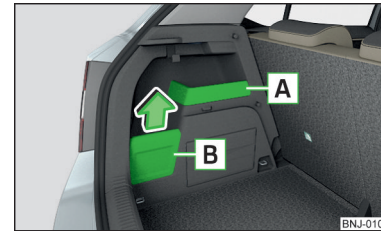

Fig. 111 Storage compartments
- If possible, take the item of luggage suspended from the hook and place it in the storage compartment **B** » Fig. 111 on page 85, otherwise there is a risk of damaging the storage compartment cover.
- If an item of luggage weighing more than 2.5 kg is suspended on the hook, then we recommend removing the storage compartment cover **B** » Fig. 111 on page 85, otherwise there is a risk of damaging the storage compartment cover.
The integrated storage compartment **A** » Fig. 111 is suitable for stowing small objects weighing up to 1.5 kg in total.